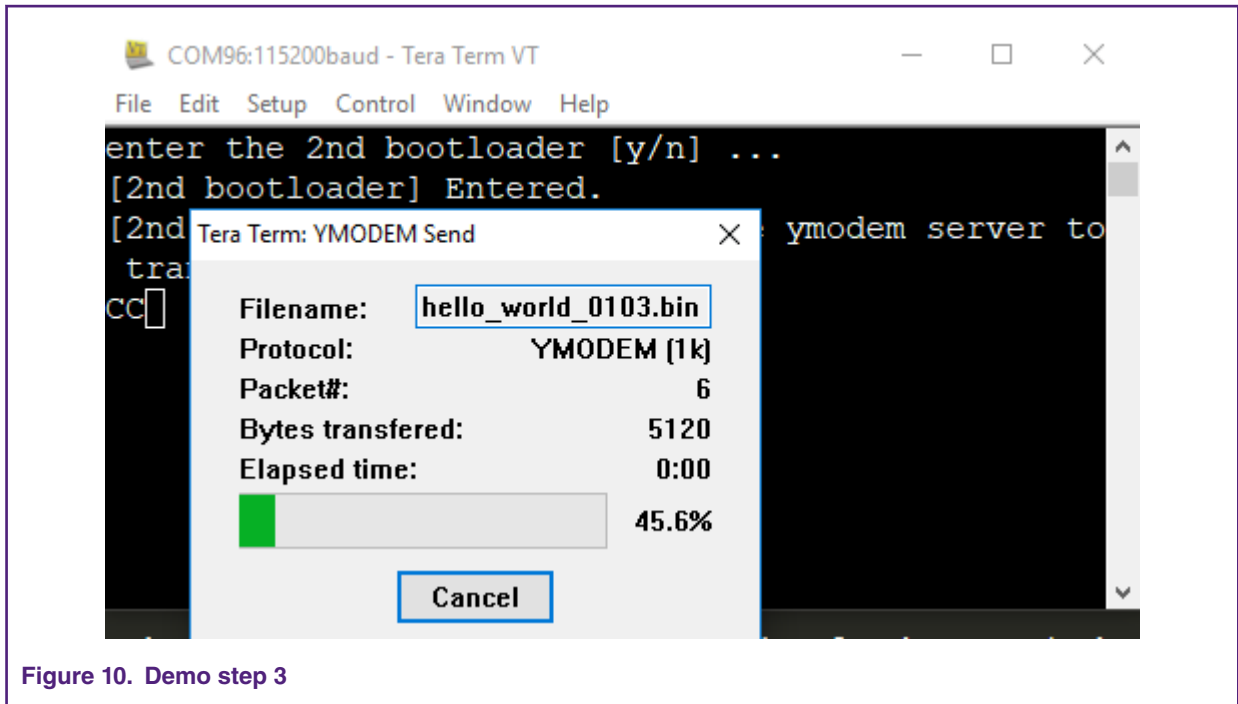

Figure 10. Demo step 3
- Send the prepared user firmware image file using the YModem tool of **Tera Term**, by following the guide in PC: Send file through YModem as host on page 12. Then the progress bar appears in the dialog window, as shown in Figure 10, on page 17.